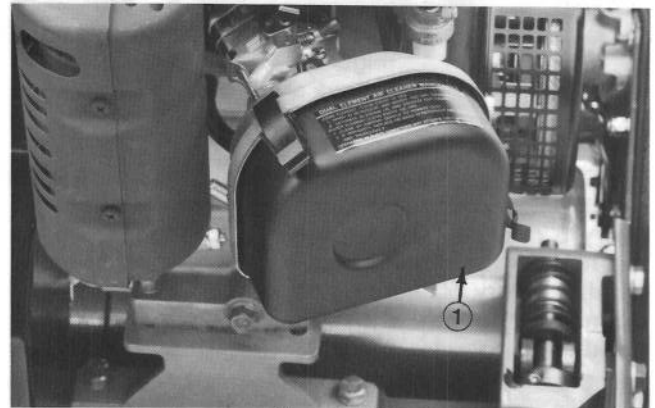

Figure 30
2. Release locking clips and remove air cleaner cover. Clean cover thoroughly (Fig. 30).